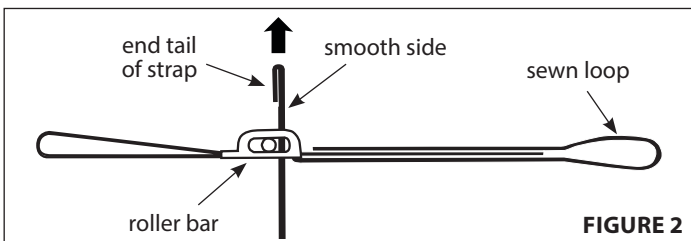

FIGURE 2
2. Feed end tail of strap up through the bottom of the float buckle on the sewn loop side of the roller bar. **SEE FIGURE 2.**